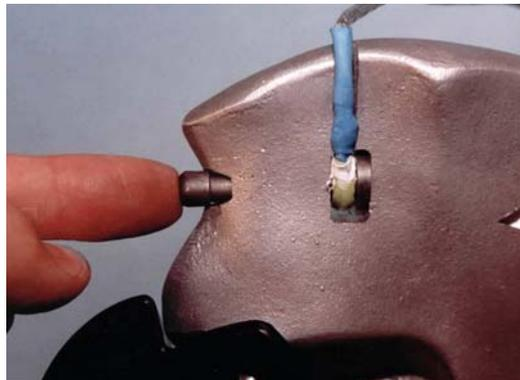

Figure 11.22- Iliac load cell plunger
17. Insert the Iliac Load Cell Plunger (T1PLM018) into the hole located at the left iliac notch and push the plunger toward the rear to mate with the load cell and load washer, as shown in **Figure 11.22**.